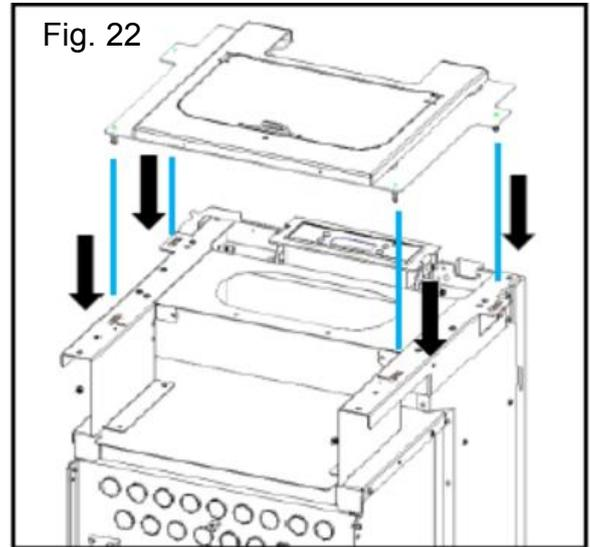

Fig. 22
- Fit the front grille, matching the holes in the grille to the holes in the appliance (figure 22).